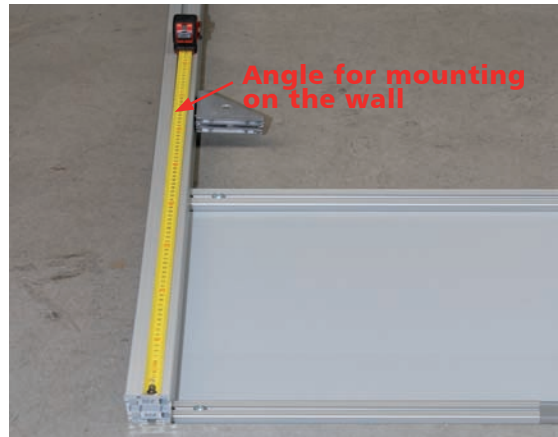

fig. 3.2-12
**Step 10** In order to attach the angles **A2f** to the side supports (**fig. 3.2-12**), please take the following measurements:
**Step ⑩** Insert eight (8) T-nuts **M8** into the upper lead channels at the inside of the side supports and align them according to the measurements taken (4 T-nuts per side of which 2 are per measurement).
**Step ⑪** Now mount the angles **A2f** to the upper lead channels at the inside of the side supports using two (2) Verbus-Ripp-screws **M8x20** per angles (*fig. 3.2-12*). Please tighten the screws appropriately (ca. 25 Nm).